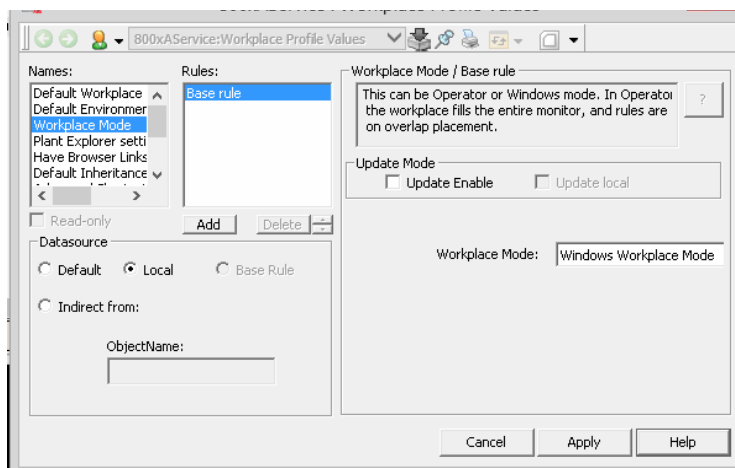

Figure 10. Workplace Mode
2. Select **Local** in the **Datasource** area and choose one of the Workplace Modes in the drop-down list. See Figure 10. Click **Apply**.